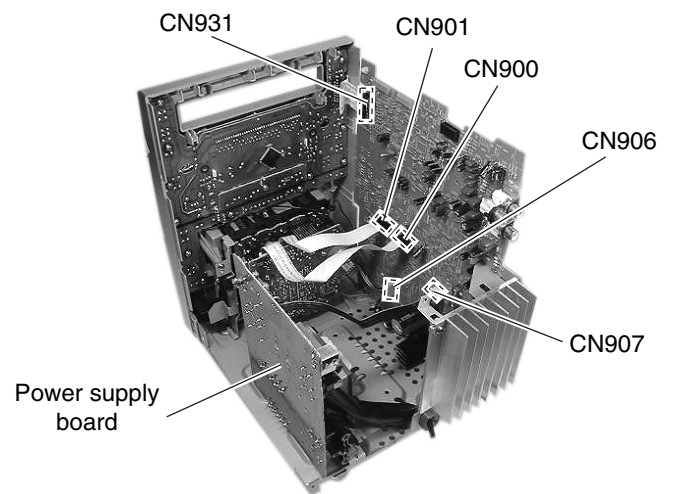

Fig. 13
■ Removing the main board / heat sink (See Fig. 13 & 15)